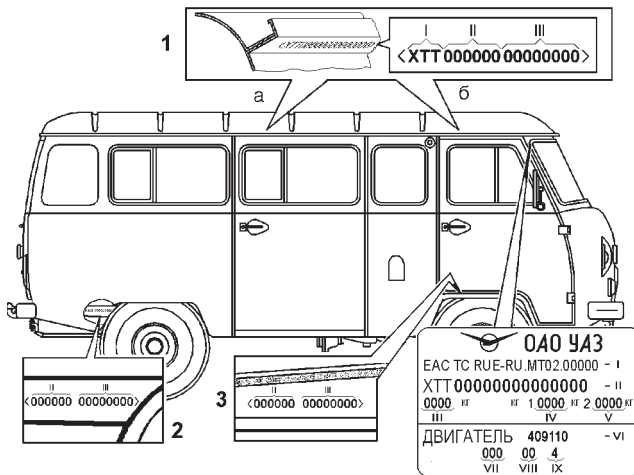

Fig. 1.12. Vehicle marking:
**Vehicle identification number** (Fig. 1.12) is stamped on Manufacturer's name plate and on roof flute lower plane (on vehicles UAZ-220695, UAZ-220695-04, UAZ-396295 and their versions — in two places: "a" and "b"; on vehicles UAZ-374195, UAZ-374195-05, UAZ-330395, UAZ-330365, UAZ-390995, UAZ-390945 and their versions — in one place: "b").
**Body (cab) identification number** (Fig. 1.12) is stamped on the front right door opening horizontal panel.